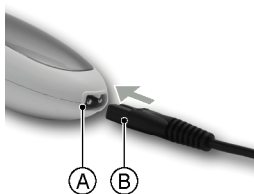

Figure 2: Charging the clipper battery.
2. Insert the power pack connector (Figure 2, B) in the socket (Figure 2, A) on the clippers.
When the battery is discharged, the clippers can be used with the power lead connected directly to the clipper socket (Figure 2).